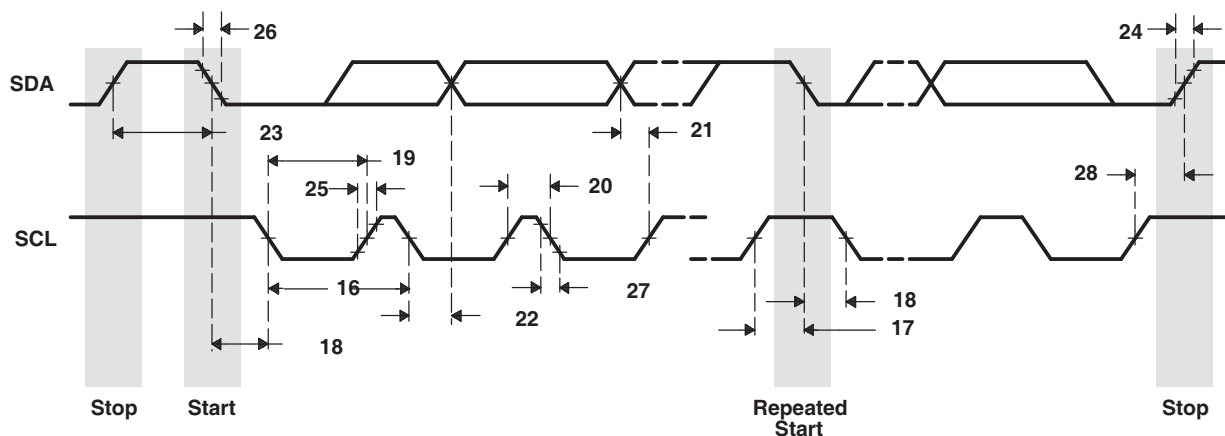

**Figure 6-26. I2C Transmit Timings**
**Table 6-45. Switching Characteristics for I2C Timings(1) (see Figure 6-26)**